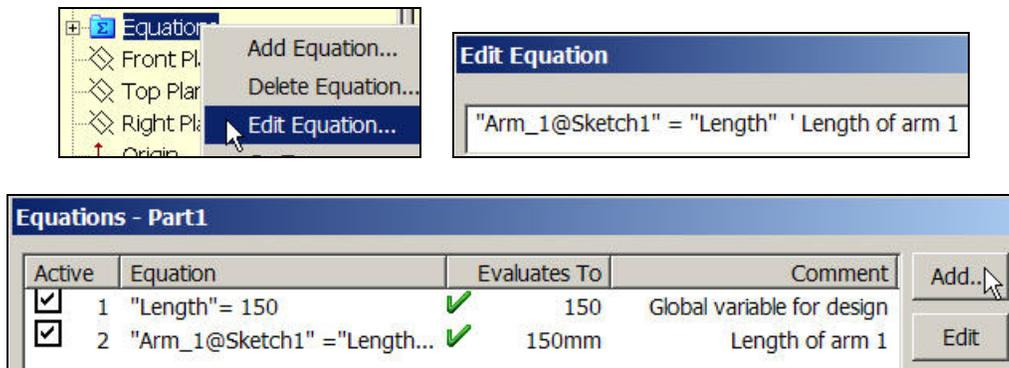

Figure 6 Linking the second equation to a design parameter
- Feature Manager** → **Equations** → **Edit Equation** (Figure 6 top left)
- The revised expression appears in the **Equations panel** (Figure 6).